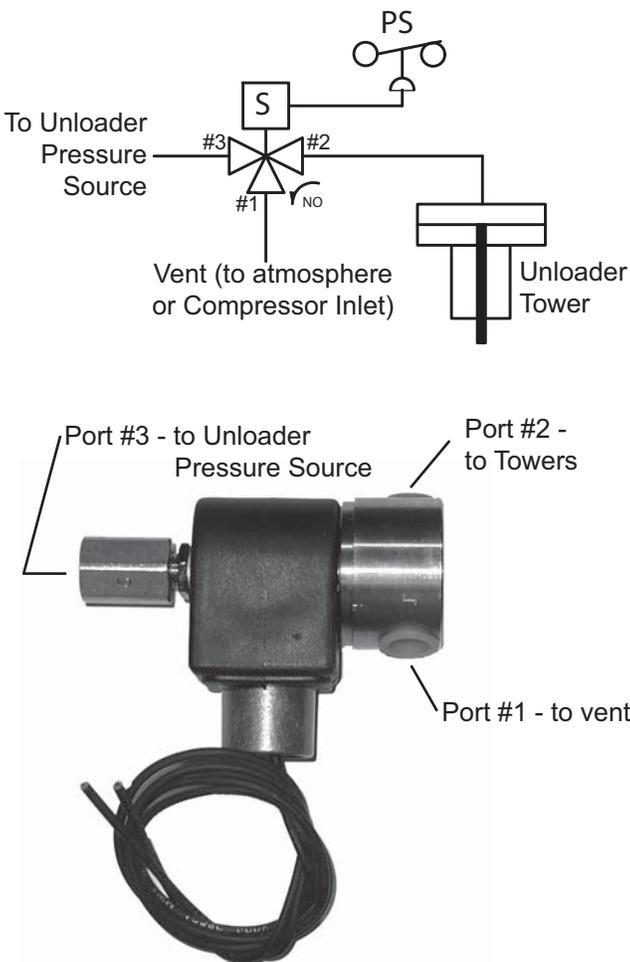

Figure 11: Three Way Unloader Solenoid Valve Plumbing
**Three-Way Unloader Control Solenoid Valve** – Provided on air boosters and gas compressors with suction valve unloading (Figure 11). The three way unloader control solenoid receives an electrical signal from a pressure switch to engage or release (load or unload the compressor). The valve is designed so that if electrical power is lost or the solenoid fails, the valve will unload the compressor. There are three gas ports on the unloader valve, as well as an electrical connection. Port # 1 is the vent port. Port # 2 is connected to the Unloader Towers or 3-Way Check Valve. Port #3 is connected to the unloader pressure source. If the port configuration is different than that listed above, it will be noted on the Piping and Instrumentation Diagram.